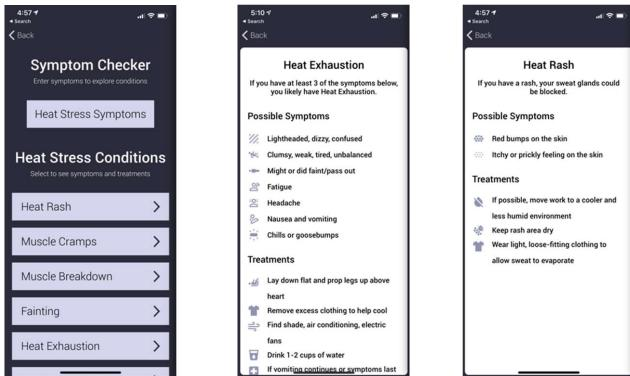

Figure 33: Heat Stress Conditions
3. Alternatively, select the **Heat Stress Condition** that best describes your symptoms (Figure 33).